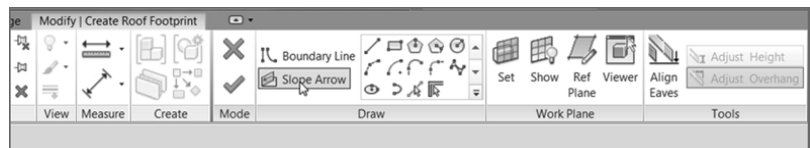

FIGURE 7.40: Clicking the Slope Arrow button on the Draw panel
1. On the Draw panel, click the Slope Arrow button, as shown in Figure 7.40.